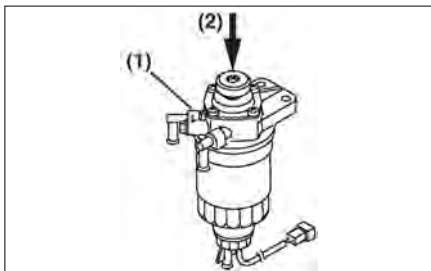

Figure 2
2. Loosen the air bleed port **(Figure 2, (1))** 2 or 3 turns.
3. Operate the fuel priming pump **(Figure 2, (2))** until the fuel coming out of the air bleed port is free of bubbles.